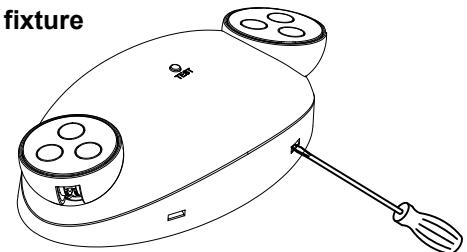

Fig 1
1. Use flat blade screwdriver pry off frontcover from back plate (see Fig 1).